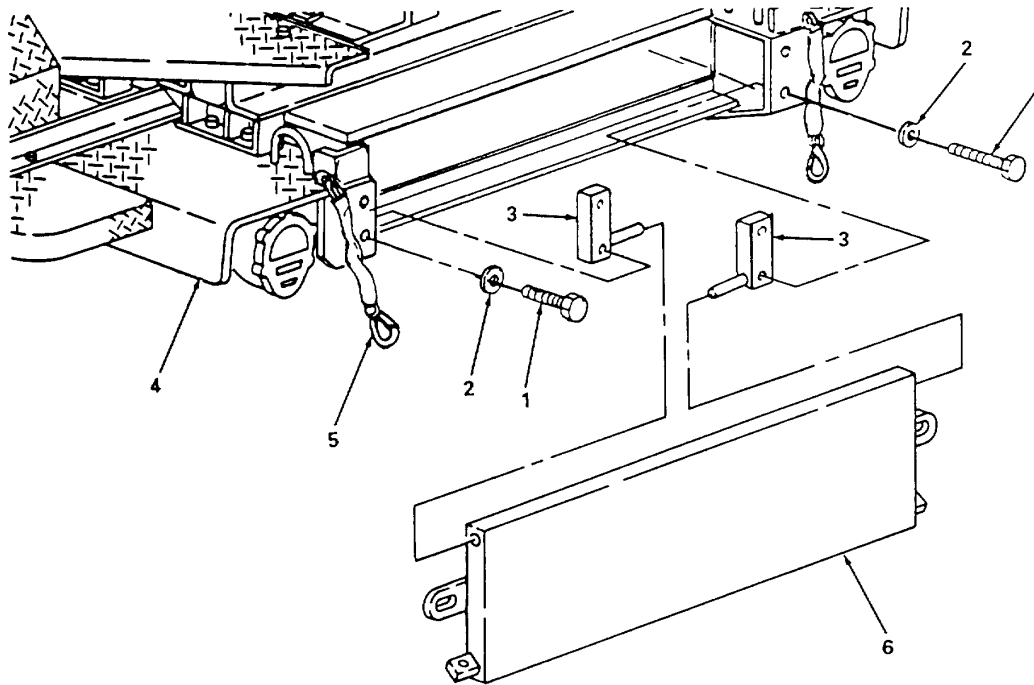

Figure 4-21. Tailgate and Hinge Block Replacement.
4-32. Tailgate and Hinge Block Replacement. (See figure 4-21).a. Removal.**CAUTION**
- (1) Remove two screws (1, figure 4-21) and two flat washers (2) from one hinge block (3). Push hinge block as far into recess as possible to disengage pin from tailgate. Take hinge block (3) off trailer (4).
- (2) Unhook safety chains (5) from tailgate (6) and remove tailgate from second hinge block (3).
- (3) If necessary, remove two screws and two flat washers and remove second hinge block.